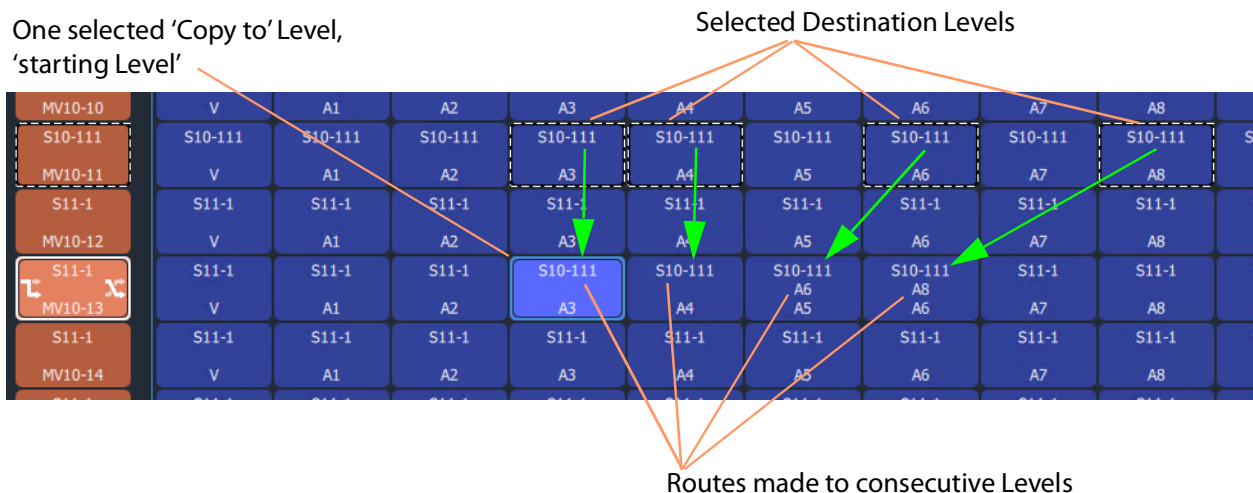

Fig. 11-87: Result of CTRL-V Paste
- 1 Select Destination Levels and copy them. For example, A3, A4, A6 and A8, see Figure 11-87.
See Figure 11-87 for the result of CTRL-V paste from the copied Destination Levels.